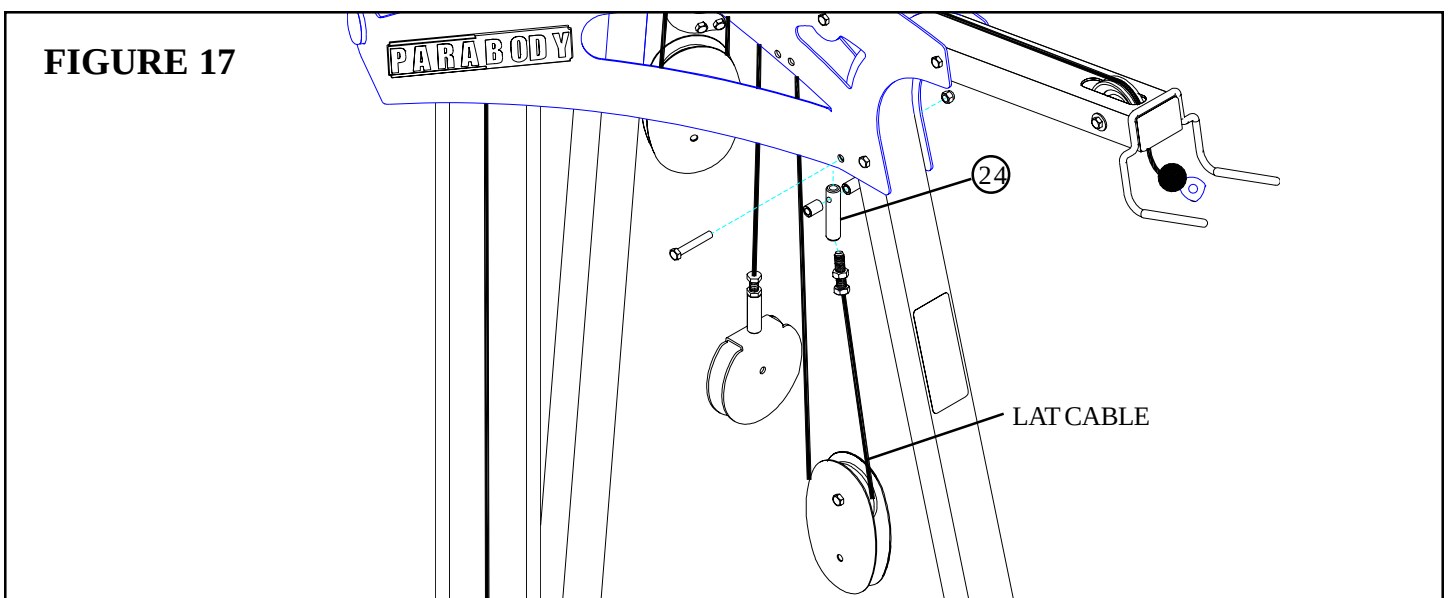

FIGURE 17
- Securely assemble the LAT CABLE to the THREADED HOUSING (24) then assemble the THREADED HOUSING (24) to the BOOM BRACKET using one previously removed 3/8 X 3-3/4" BOLT, two previously removed 3/8 X 1" SPACERS and one previously removed 3/8" LOCK NUT as shown in FIGURE 17.